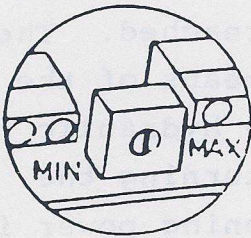

Fig. 14b
2. Set the time potentiometer screw as in fig. 14b.